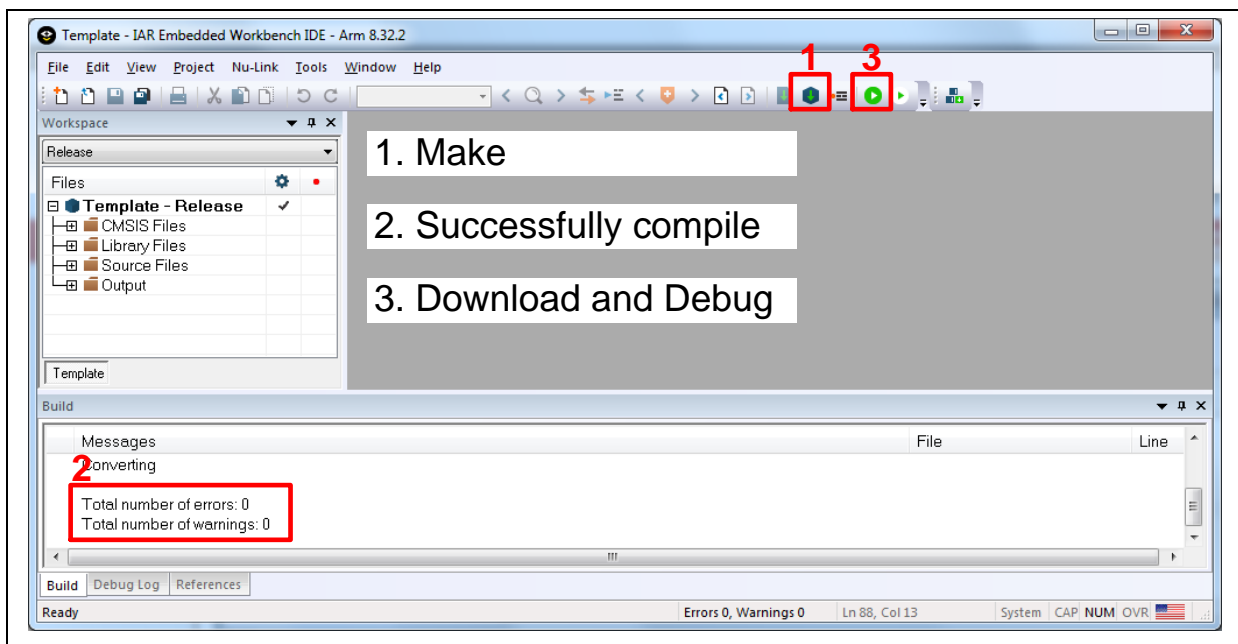

Figure 3-24 Compile and Download the Project
3. Make target file as presented in Figure 3-24. After successfully compile the project, download code to the flash memory and enter debug mode.